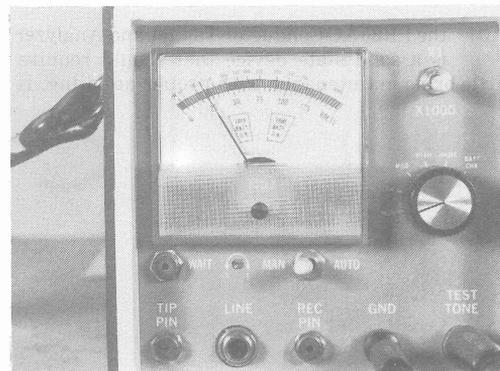

FIGURE 22
- (b) 24 Volts- Working line in use. There may be a slight variation of split voltage. However, both sides of the line will total 48 volts. (Figure 22)